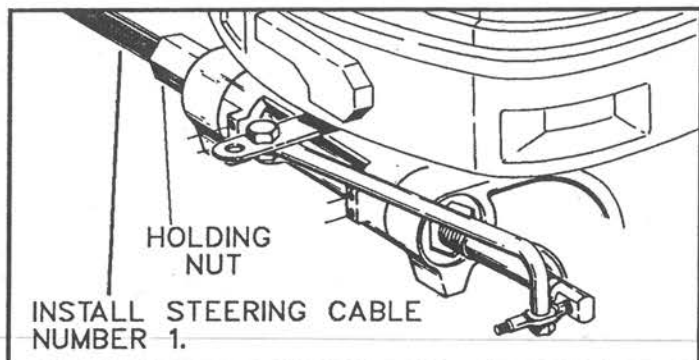

FIGURE 4 CABLE 1 INSTALLATION
A. Lubricate the inside of the engine *Tilt Tube*, the inside of the *Steering Cable Support Tube* and the output end of the *Cable* with a coat of good quality waterproof marine grease. Install *Steering Cable Number 1* into the engine *Tilt Tube* and tighten the *Holding Nut*. See **Figure 4**.